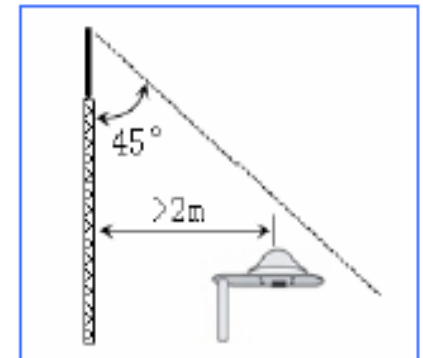

Figure 2
2. The GPS antenna should be installed in the protection range of the lightning rod (within the tilt angle of  $45^\circ$  under the lightning rod). The horizontal distance between the antenna and the lightning rod should be longer than 2 m, as shown in Figure 2.